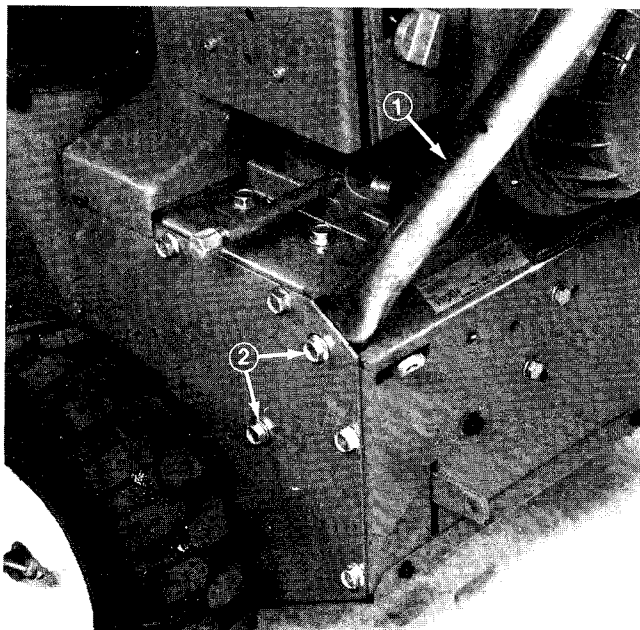

Figure 2
4. Secure handles to side plates with capscrews and washers (Fig. 2).